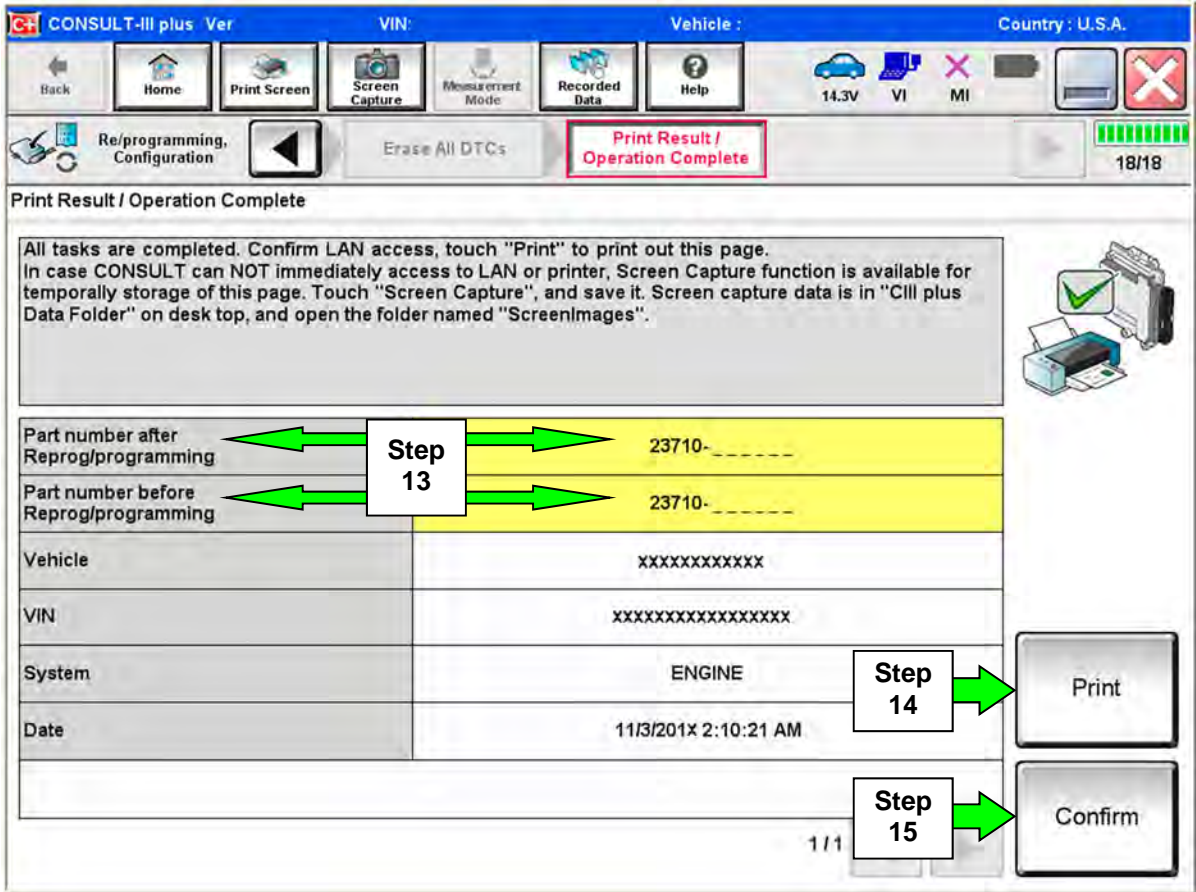

Figure 8
- 12. When the entire reprogramming process is complete, the screen in Figure 8 will display.
- 14. Print a copy of this screen (Figure 8) and attach it to the repair order for warranty documentation.